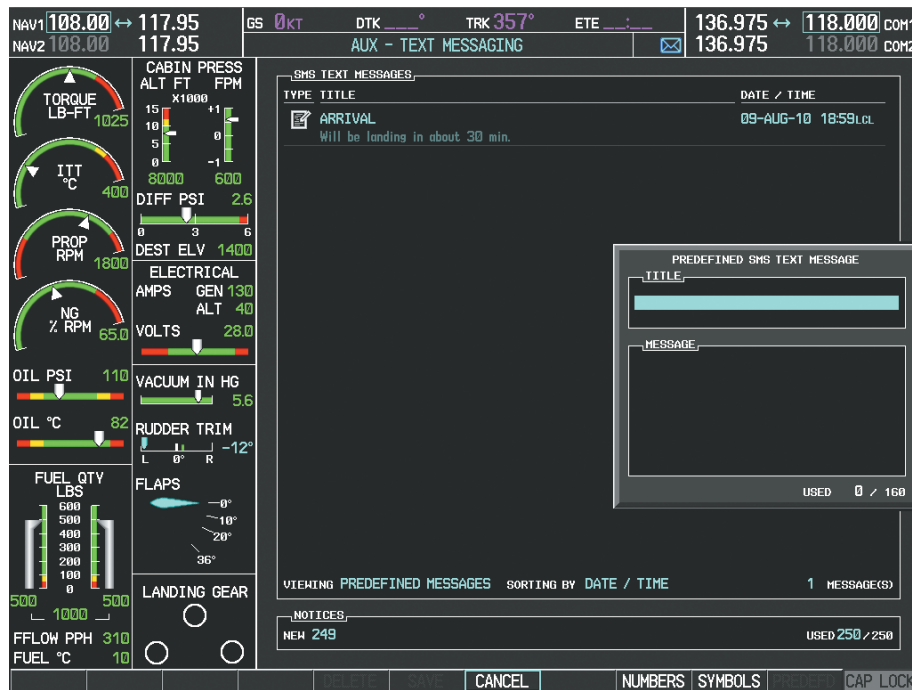

Figure 8-90 Composing a Predefined Message
- c) Press the **ENT** Key. The PREDEFINED SMS TEXT MESSAGE Window is now displayed as shown in Figure 8-90.